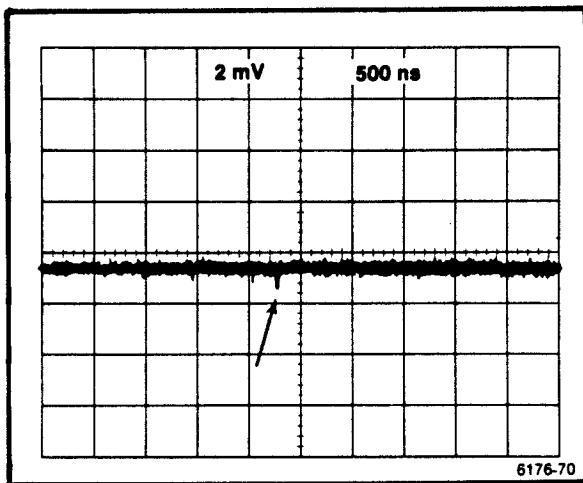

Figure 5-15. Typical display of trigger kickout.
c. **CHECK**—the trigger kickout pulse to be no more than  $\pm 2$  mV (see Figure 5-15).